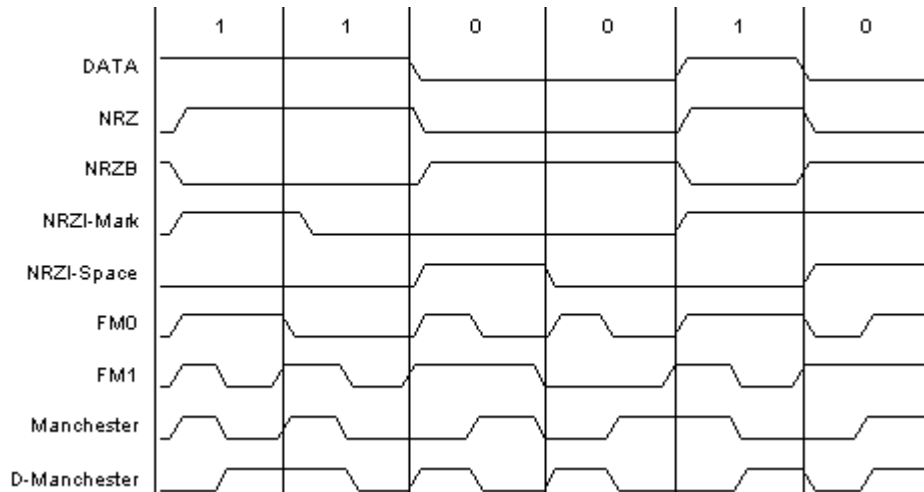

Figure 27: Data coding example
<ul style="list-style-type: none"> ■ NRZI-Space (011). A 0 is represented by a transition at the beginning of the bit-time; the level that appears during the previous cell is reversed. A 1 is represented by the absence of a transition at the beginning of the bit cell. ■ FM0 (100). A 0 is represented by a transition at the beginning of the bit-time followed by another transition in the middle of the bit-time. A 1 is represented by a transition only at the beginning of the bit-time. ■ FM1 (101). A 1 is represented by a transition at the beginning of the bit-time followed by another transition in the middle of the bit-time. A 0 is represented by a transition only at the beginning of the bit-time. ■ Manchester (110). A 1 is represented by a high level during the first half of the bit-time and a low level during the second half of the bit-time. A 0 is represented by a low level during the first half of the bit-time and a high level during the second half of the bit-time. ■ Differential Manchester (111). A 1 is represented by a transition at the center of the bit-time, with the opposite polarity from the transition at the center of the preceding bit-time. A 0 is represented by a transition at the center of the bit-time with the same polarity as the transition at the center of the preceding bit-time. In both cases, there are transitions at the beginning of the bit-time to set up the level required to make the correct center transition. <p>See Figure 27, "Data coding example," on page 235 for an illustration of the transmit and receive coding methods.</p>
Figure 27 shows the different transmit and receive coding methods.